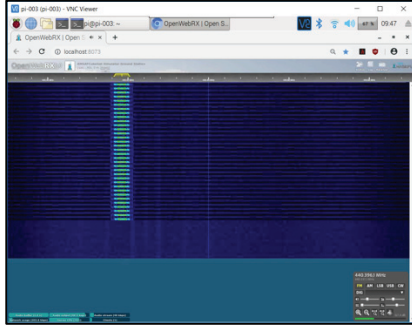

Fig. 9. OpenWebRX on a Raspberry Pi
2. The OpenWebRX application [6] can be used to share the RTL-SDR with other computers running just a web browser. Up to twenty users can then independently tune and decode the telemetry -- very useful for a classroom exercise. See Figures 9 and 10.